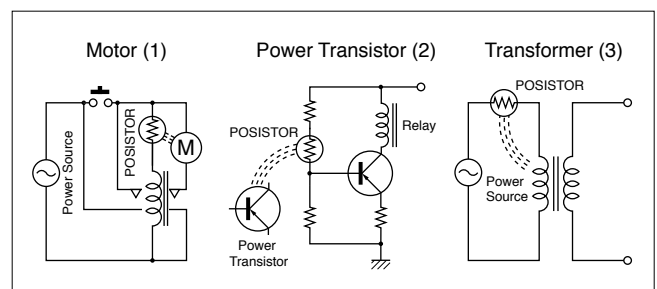

Fig. 13 Protection from overheat by POSISTOR
A POSISTOR can be used for the overheat sensing of motors, transformer winding, bearings, power transistors, and other machinery. Fig. 13(1) shows an example of overheat sensing for motor using a relay. In case of small regular operating current, the circuit can be directly stopped by POSISTOR. In case of larger regular operating currents, the circuit can be stopped by using the POSISTOR with a relay or a thyristor. In either case, POSISTOR is a very easy to use device, because it's small, light, and a two terminals device.